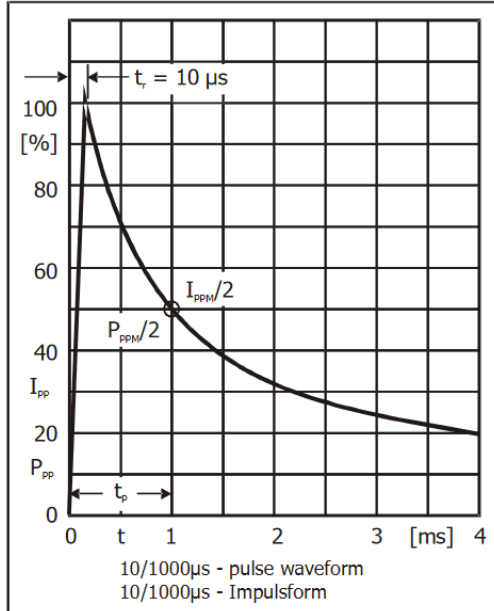
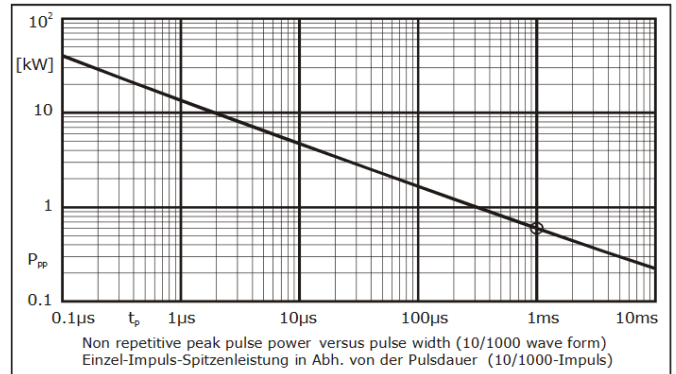

Figure 5: 10/1000  $\mu$ s waveform (P6SMBJ65)
Figure 6: Non-repetitive peak pulse power vs. pulse width (P6SMBJ65)
- $P_{PPM}$ : The Peak Pulse Power Dissipation is a measure of the diode's ability to dissipate energy and is defined as the peak pulse current  $I_{PPM}$  multiplied by the maximum clamping voltage  $V_C$ . Because surges are time-dependent, transient phenomena,  $P_{PPM}$  is specified with a pulse current of 10/1000  $\mu$ s: 10  $\mu$ s rise to peak and 1000  $\mu$ s exponential decay to one-half peak (Fig. 5). For non-repetitive pulses, the peak power must stay below the curve in Fig. 6 at all times.